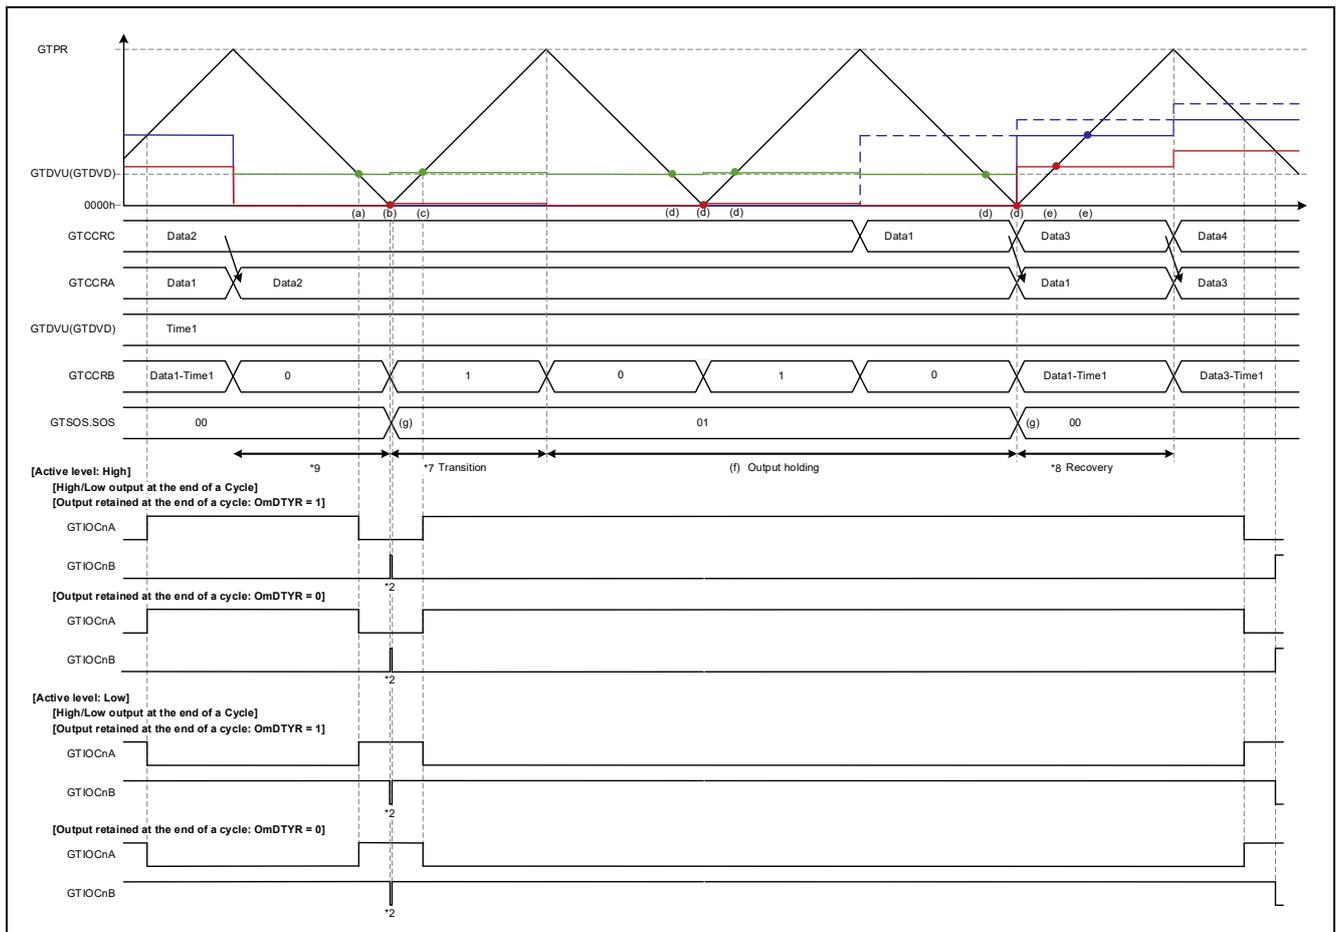

Figure 1.94 Triangle-Wave PWM Mode 2 Operation Example
| | Crest | Trough | Present | Present | Figure 1.94 |
- Operation Example 4: Figure 1.94 Triangle-Wave PWM Mode 2, Abnormal Value (Transfer at Crest)/Normal Value (Transfer at Trough), cautions 2, 7, 8, and 9
Figure 1.94 shows an operation example of transfer of 0000 0000h to GTCCRA via buffer transfer at crest and return via buffer transfer at trough of a normal value in triangle-wave PWM mode 2